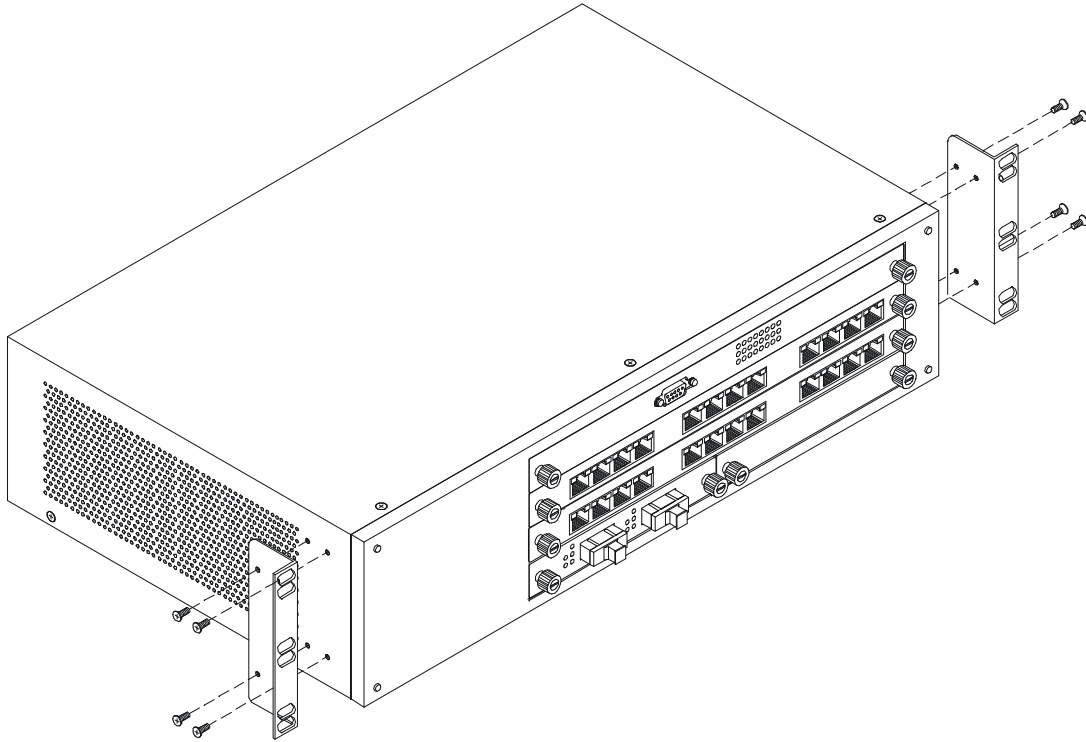

Figure 5: Attach Mounting Brackets
1. Attach a mounting bracket to each side of the DES-5024 with the screws provided. See Figure 5.